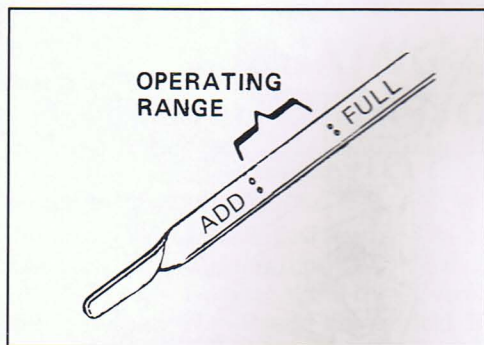

Figure 3 - Oil dipstick
2. Add oil if needed to bring the oil level above the mark. See Figure 3. Avoid overfilling the engine since this may cause